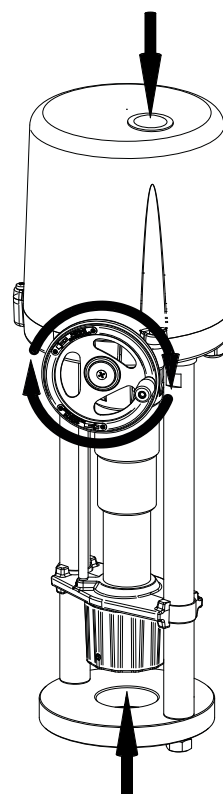

Fig. 3 – Manual operation ELS200 and ELS250
1. Unscrew the retaining nut (11) from the coupling unit (12) using a pin wrench and remove the adaptor (6) and disc springs (10).
2. Place the disc spring stacks according to Fig. 3, with the first set of three disc springs above the adaptor (6), and the second set below. The convex side of a spring must be assembled to the convex side of the next spring. Conversely, the concave side of the spring must be assembled to the concave side of the next spring.
3. Fit the assembly inside of the coupling unit (12) securing loosely with the retaining nut (11).